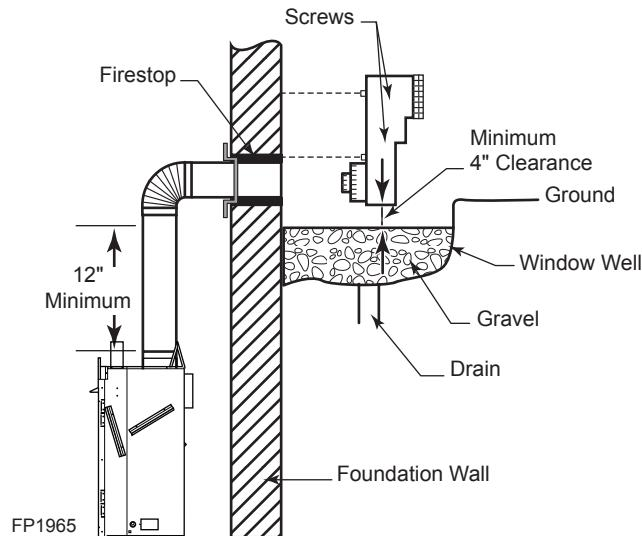

Figure 27 -
2. Remove soil to a depth of approximately 16" below base of snorkel. Install drain pipe. Install window well (not supplied). Refill hole with 12" of coarse gravel leaving a clearance of approximately 4" below snorkel. *Figure 27*
7. Level the soil so as to maintain a 4" clearance below snorkel. *Figure 27*